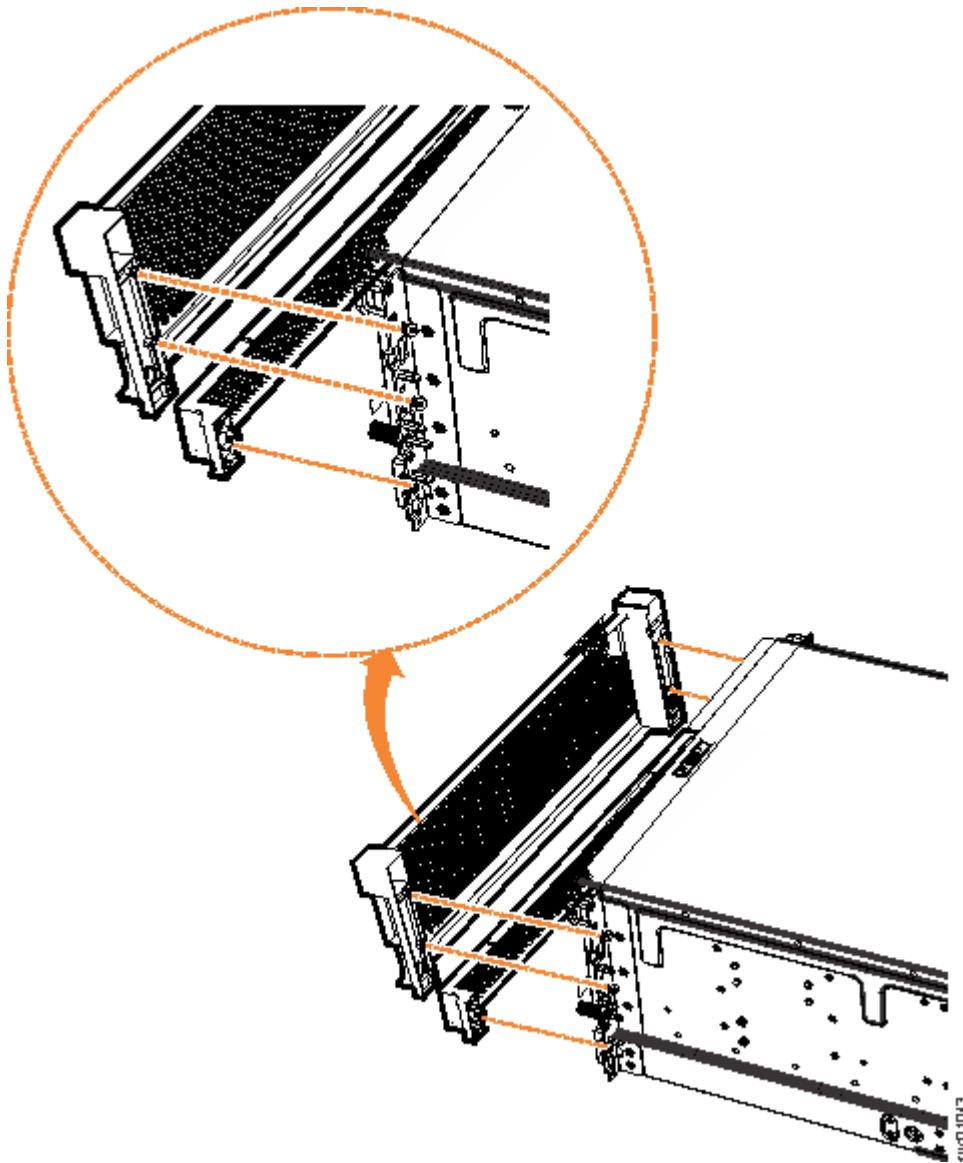

Figure 148. Remove fascia components from the expansion enclosure
2. Remove the front fascia by removing the two screws that attach the fascia to the flange on each side of the chassis, as shown in Figure 148 on page 191.
3. Gently pull on each side of the PSU fascia to remove it from the chassis, as shown in Figure 148 on page 191. The PSU fascia disengages from the slot and pin that connect it to each side of the chassis.